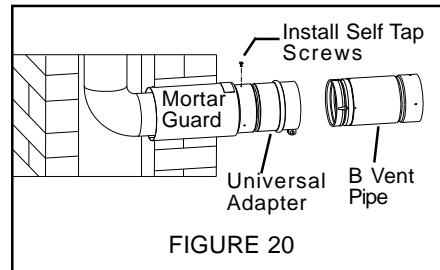

FIGURE 20
3. Engage the outlet end of the Universal B Vent adapter with the flex pipe. Once fully engaged, secure the flex to the adapter using four (4) self-tapping sheet metal screws. Using the dimples in the outer wall of the adapter as a pilot hole, install the screws so that they penetrate through the flex liner and the inner liner of the adapter (See FIGURE 20).